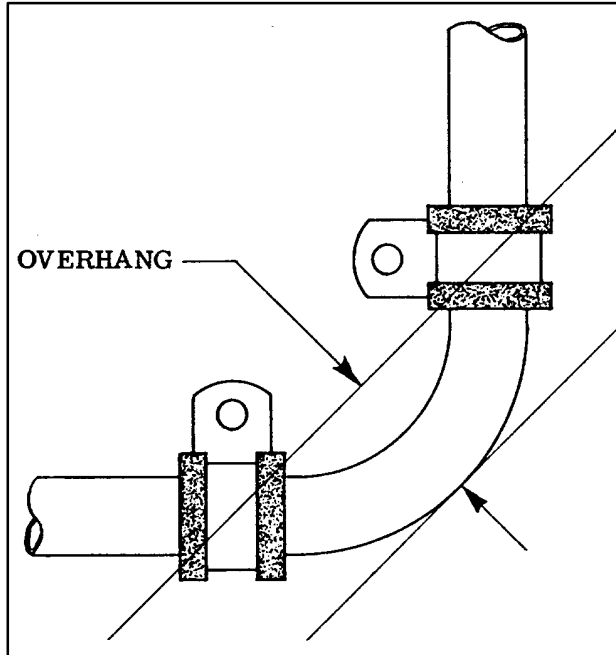

FIGURE 8-12. Location of clamps at tube bends.
(2) Locate clamps or brackets as close to bends as possible to reduce overhang. (See figure 8-12.)